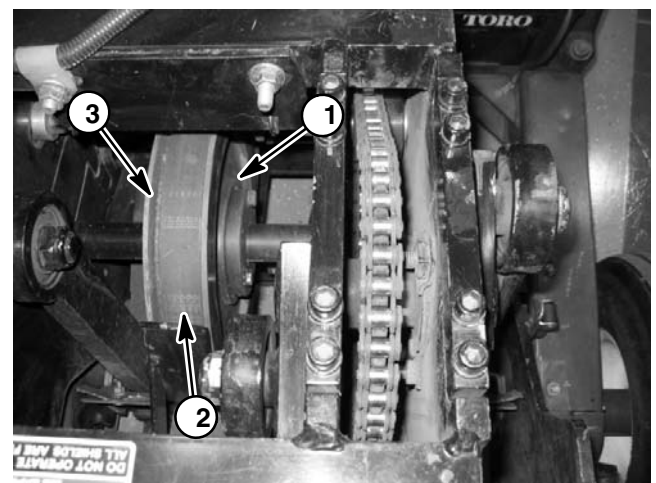

Figure 12
5. Install bearing caps noting matchmarks made during removal to ensure that bearing caps are properly positioned. Secure bearing caps to coring head frame with lock washers (item 11) and socket head screws (item 28). Torque screws from 20 to 35 ft-lb (27 to 47 N-m).
6. Position coring head drive belt to the right side of the pulley. The left pulley groove should be unused (Fig. 12).
7. Position idler pulley (item 44) to idler brackets. Place spacer (item 41) on each side of pulley. Secure idler pulley to idler brackets with cap screws (items 10 and 12) and lock washers.
9. Slide spacer (items 23 and 37), sprocket (item 24) and flat washer (item 25) onto each end of power shaft. Sprocket and shaft splines have marks that should be aligned during assembly. Install lock nuts (item 26) on shaft and torque from 150 to 170 ft-lb (203 to 230 N-m).
11. Check that 1/8" (3.2 mm) clearance exists between bottom of belt guide (item 2) and installed belt. Reposition guide if needed.